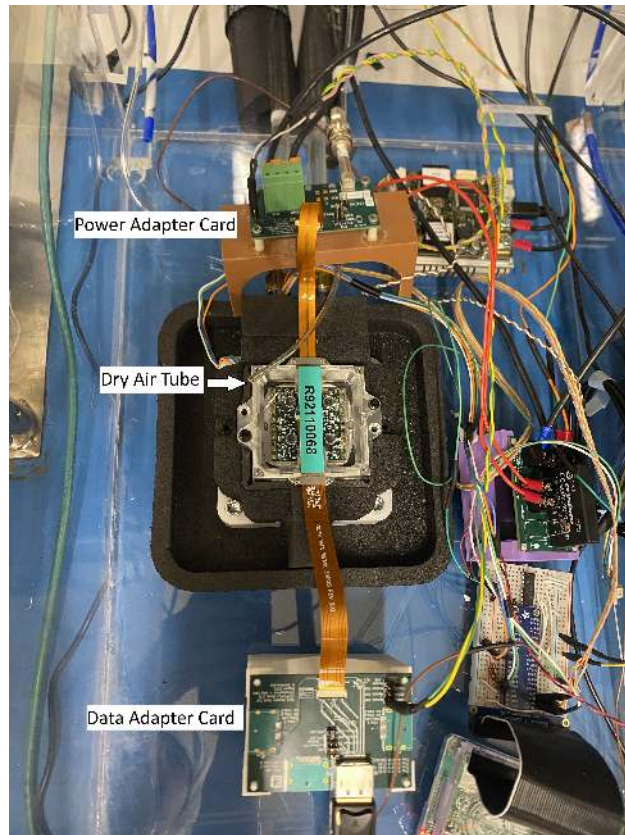

Figure 11: Module inside of foam box with pigtails plugged in and dry air tube inside.
- Take the base plate off of the module and place it on the vacuum chuck, make sure there is full contact between the chuck and module and make sure that it is oriented correctly so that the pigtails can be plugged in, see Fig 11.